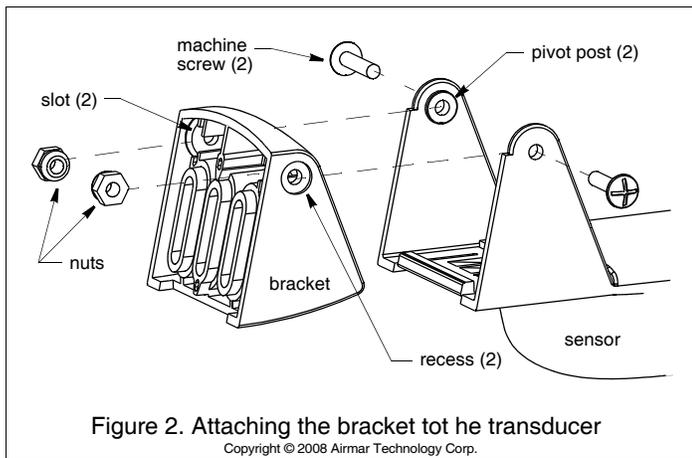

Figure 2. Attaching the bracket to the transducer
1. Insert the sensor's pivot posts into the recesses on the sides of the bracket (see Figure 2).
1. Apply marine sealant to the threads of two, #10 x 1-1/4", self-tapping bracket screws to prevent water seepage into the transom. *Be sure the nuts are in the slots in the back of the bracket and any shim(s) is in place* (see Figure 2). Screw the sensor to the hull (see Figure 3). *Do not tighten the screws completely at this time.*